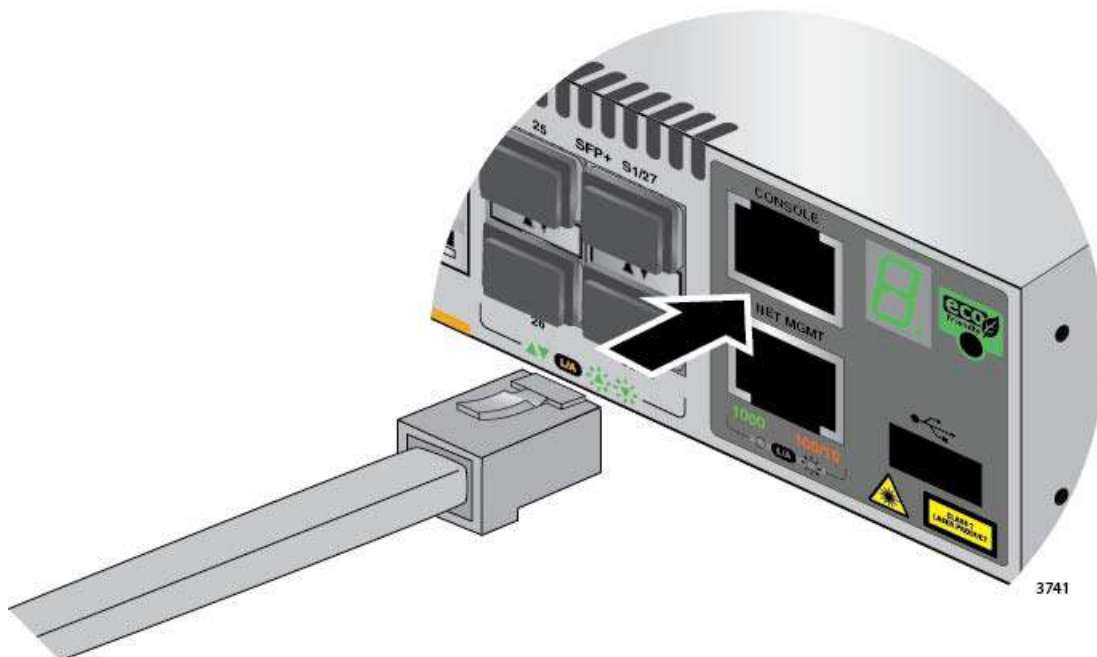

Figure 64. Connecting the Management Cable to the Console Port
1. Connect the RJ-45 connector on the management cable to the Console port on the front panel of the switch, as shown in Figure 64.